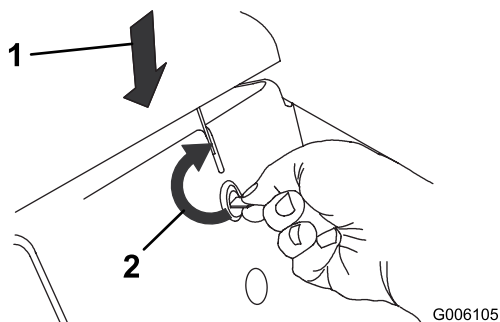

Figure 20
1. Push down on the hood while using a coin or screwdriver to turn the hood latch clockwise (Figure 20).